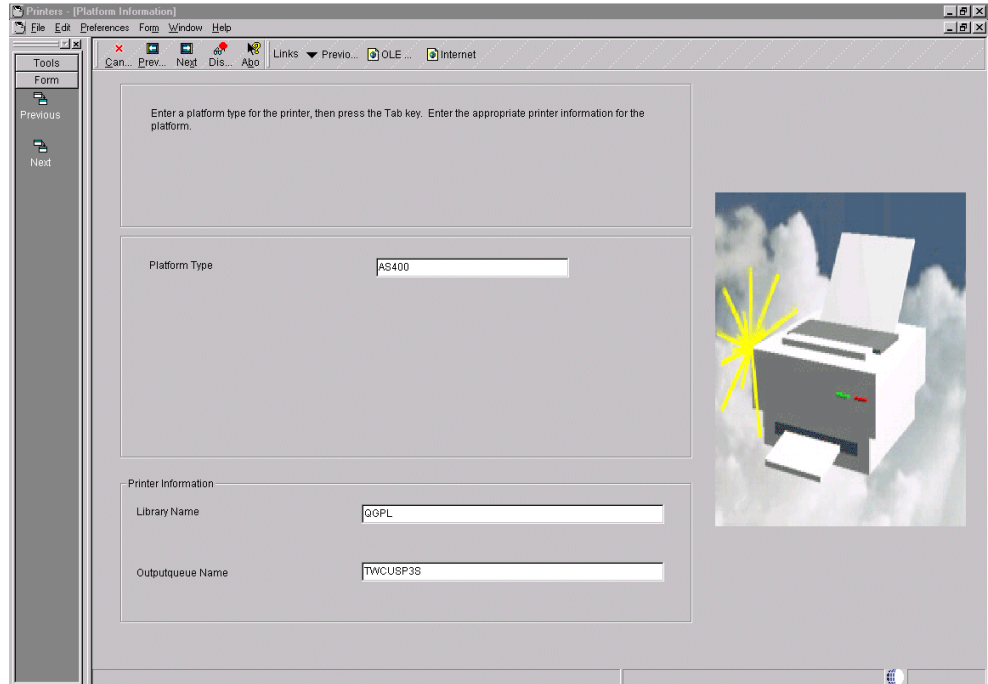

Figure 189. Printers (Platform Information) display (Part 1 of 3)
- On the following display, click on the **Next** button on the tool bar (Figure 189 on page 400).